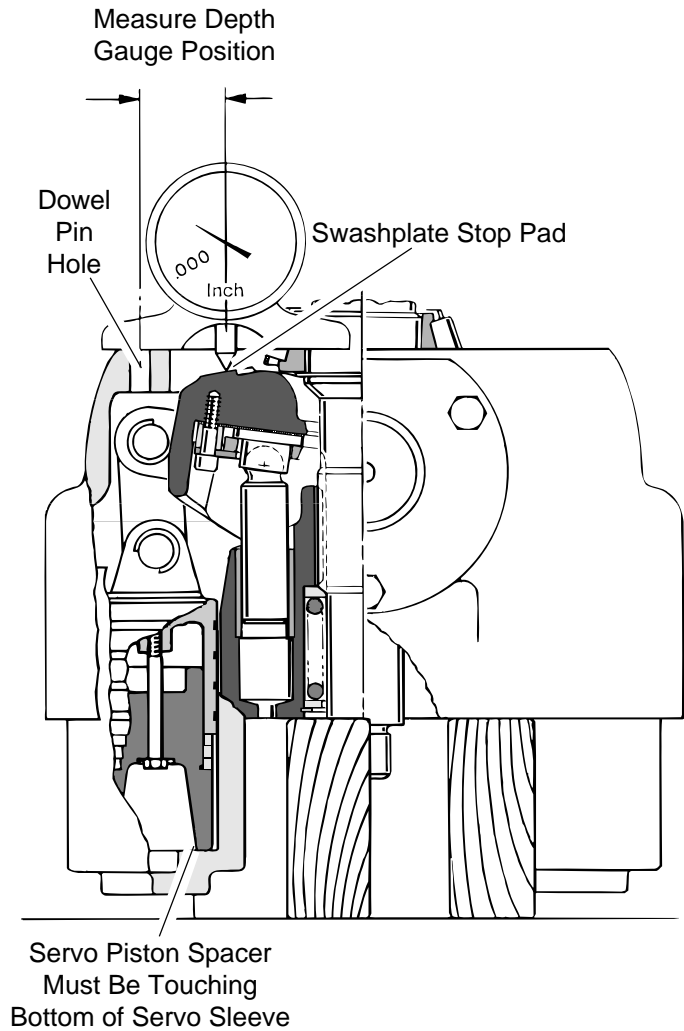

Figure 30
The depth gauge must be a precise distance from the center of the dowel pin hole in the motor housing, see figure 30. Depth gauge positioning information is given below:
**82** Adjust the servo sleeve that is over the piston with the spacer to get the desired depth gauge reading. Be sure the swashplate is in the minimum displacement position; the servo piston spacer must be touching the bottom of the servo sleeve. Choose the depth gauge reading for the desired minimum swashplate angle from the table below figure 30.